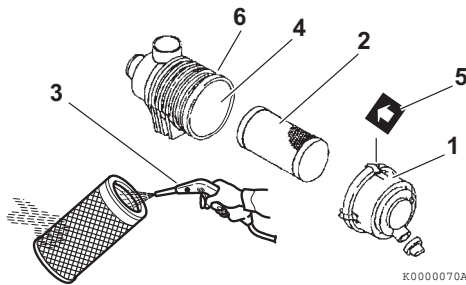
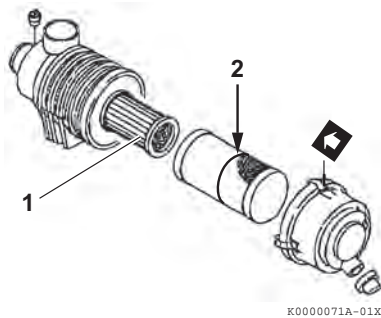

Figure 13
Figure 14
Note that a typical air cleaner is shown in **Figure 13** and **Figure 14** for illustrative purposes only.
1. Unlatch and remove the air cleaner cover (**Figure 13, (1)**).
2. Remove the element (**Figure 13, (2)**) (outer element if equipped with two elements).
3. Blow air (**Figure 13, (3)**) through the element from the inside out using 42 - 71 PSI (0.29 - 0.49 MPa, 3.0 - 5.0 kgf/cm²) compressed air to remove the particulates. Use the lowest possible air pressure to remove the dust without damaging the element.
4. If the air cleaner is equipped with a double element, only remove and replace the inner element (**Figure 14, (1)**) if the engine lacks power or the dust indicator actuates (if equipped).
7. Reinstall the element into the air cleaner case (**Figure 13, (4)**).
*Note: If there is a red line (**Figure 14, (2)**) in the outer element, reinsert the element until the overlap position of red line and end face of the air cleaner case.*
8. Reinstall the air cleaner cover making sure you match the arrow (**Figure 13, (5)**) on the cover with the arrow on the case (**Figure 13, (6)**).
Replace the air cleaner element (**Figure 13, (2)**) every 500 hours even if it is not damaged or dirty.
When replacing the element, clean the inside of the air cleaner case (**Figure 13, (4)**).
If the air cleaner is equipped with a double element, *only remove and replace the inner element (Figure 14, (1)) if the engine lacks power or the dust indicator actuates (if equipped)*. This is in addition to replacing the outer element.